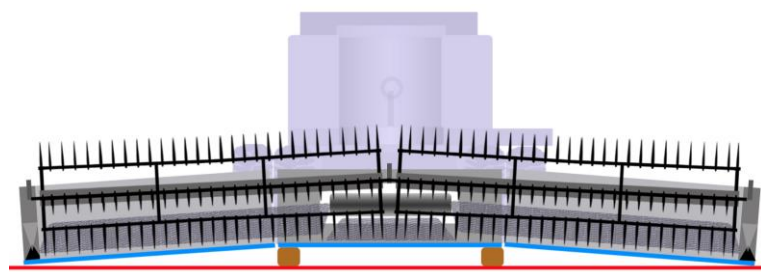

Fig. 8A Block Test – Header Frown
- Place 150mm (6") blocks under the cutter bar just inboard of hinge point. Refer to Fig. 8A.
- Frown Flex Range needs to be checked with header in frown position. (see Fig.8A) Pin (1) must reach end of travel slot (2) (range 0-3mm (1/8") gap).
- Smile Flex Range needs to be checked with the header in smile position. Pin (1) must reach end of travel slot (2) (range 0-3mm (0-1/8") gap).